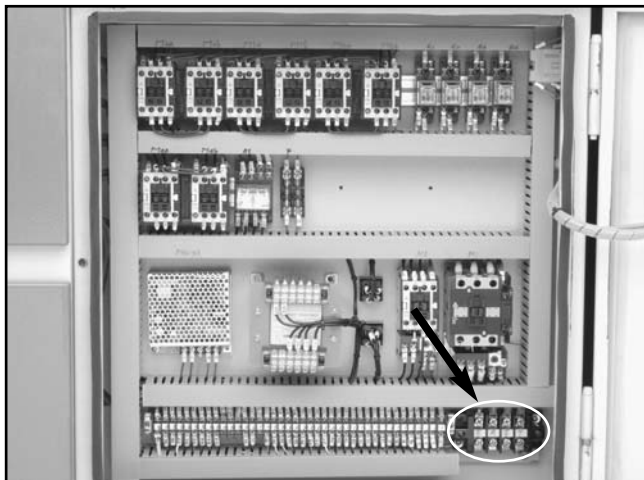

Figure 53. Main terminal located inside saw control panel.
3. Feed the power cord through the strain relief on the side of the control panel, and connect the cord wires to the main terminal (**Figure 53**).